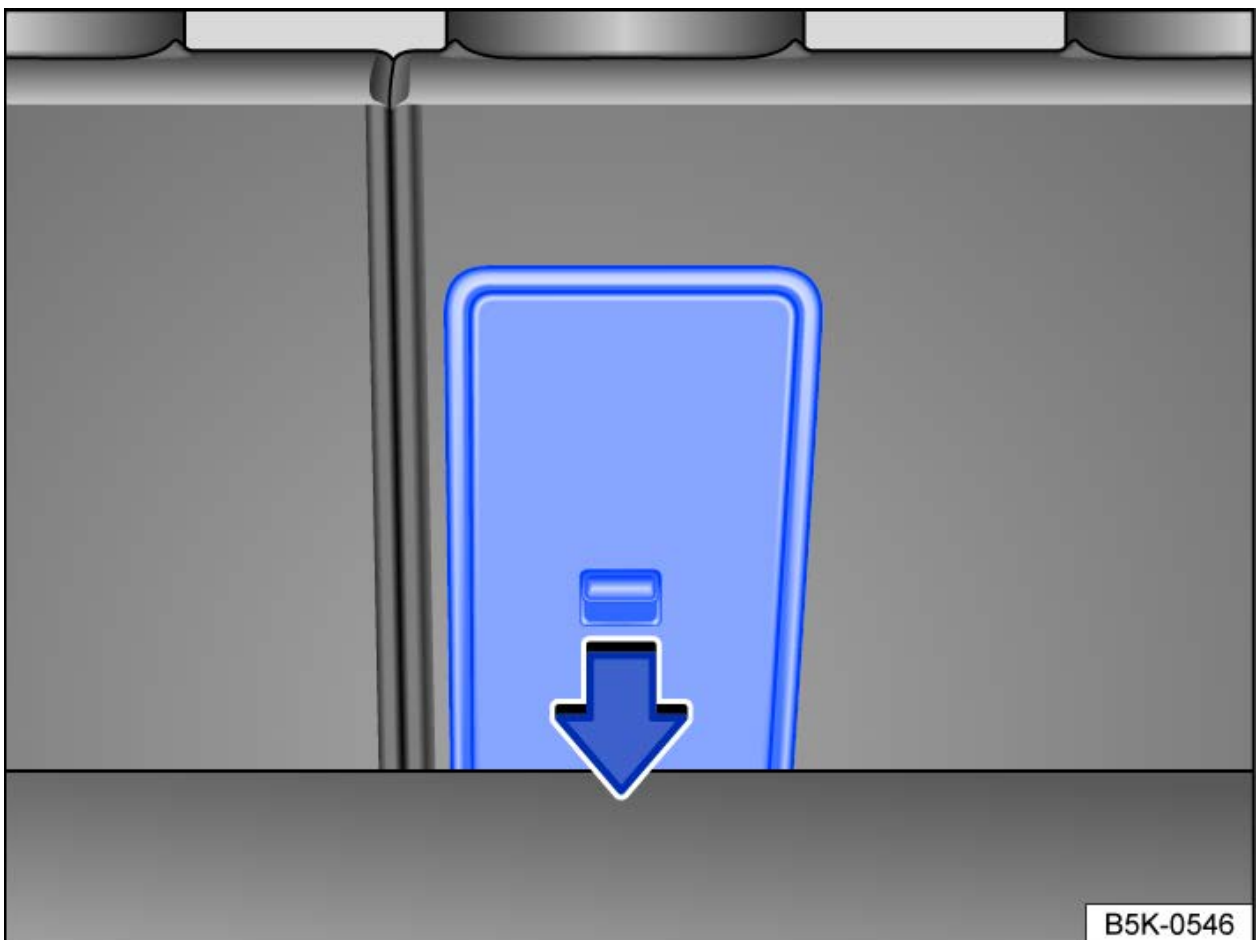

Fig. 2 In the rear seat backrest: Open load-through hatch.
- **OR:** Opening the load-through hatch from the luggage compartment: Push the release lever downward in the direction of the arrow and → *fig. 2* push the flap forward.